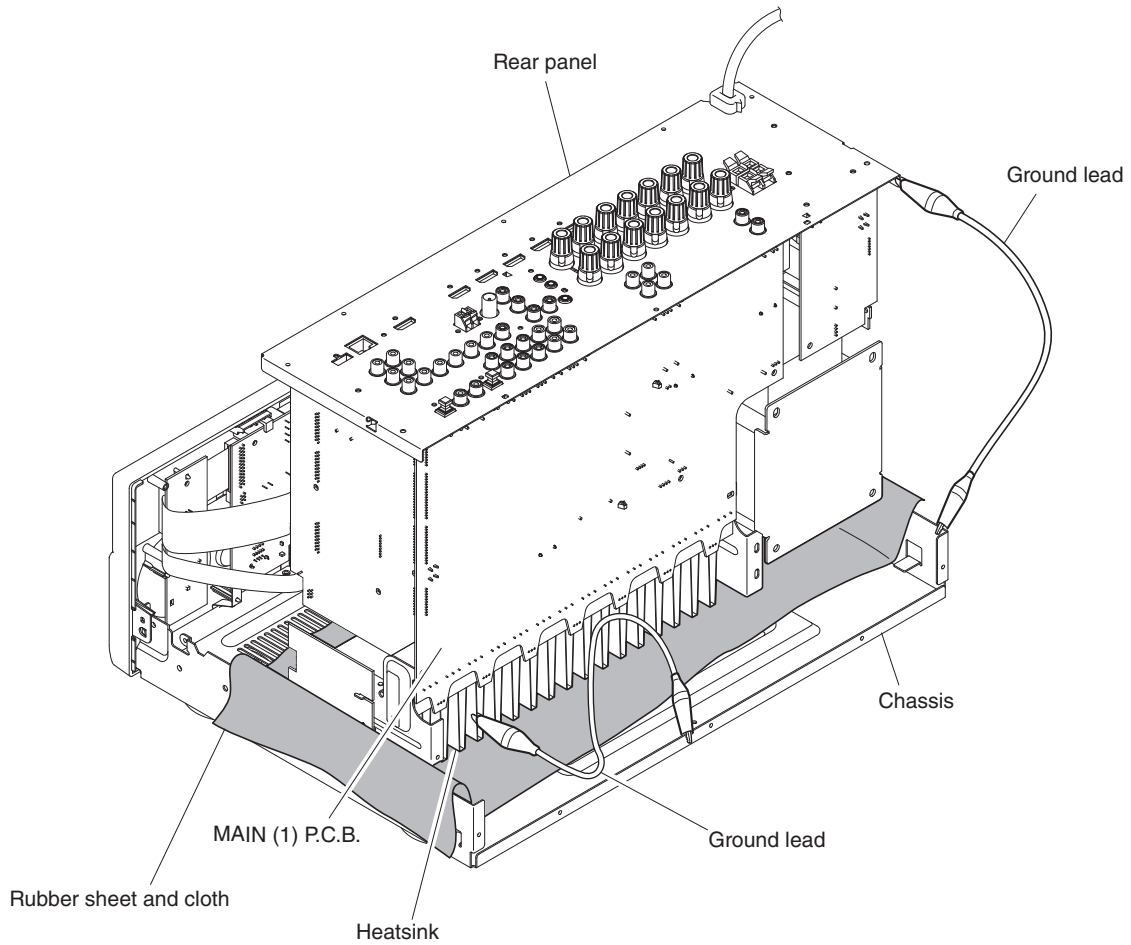

Fig. 4
- Place the P.C.B.s (with rear panel) upright. (Fig. 4)
- Connect the heatsink and rear panel to the chassis with a ground lead. (Fig. 4)